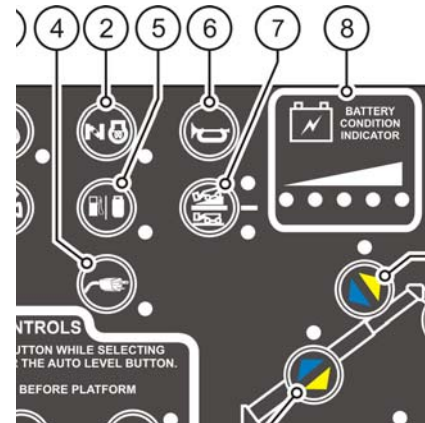

Figure 3-6. Drive Speed Selector
- Press (push) the **DRIVE SPEED SELECTOR (7)** button on the platform (upper) control panel. Refer to Figure 3-6.